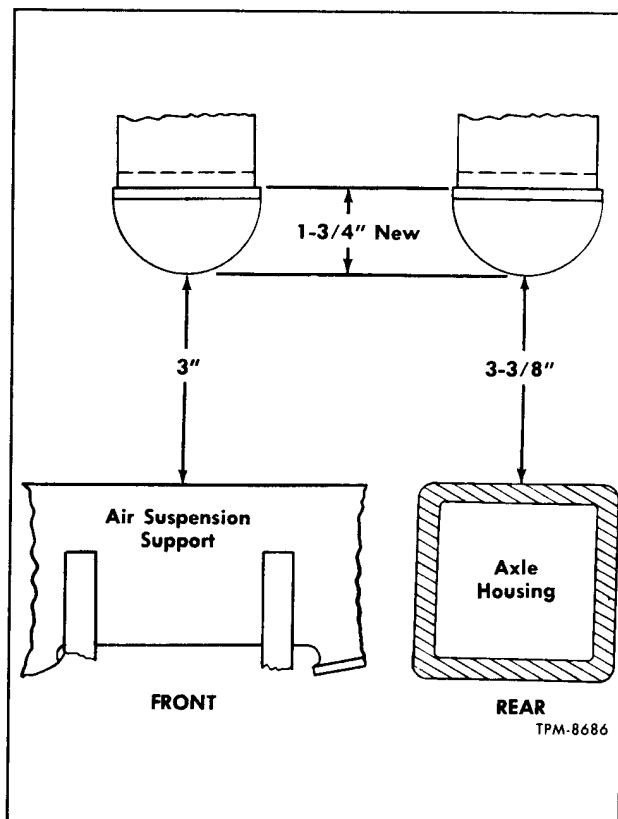

Figure 4—Normal Ride Height Clearance
Ride height measurements are taken between axle bumpers and top of axle housing as shown in figure 4.
sions given are based on the thickness of new axle bumpers (fig. 4). If coach is left standing for extended periods without air pressure in the air suspension system, the weight of the body on the axle bumpers may cause the bumpers to take permanent set in a flattened condition. Original thickness of new bumpers is shown in figure 4. If bumpers are flattened to less than the dimension shown, an equal amount should be added to the clearance specified to maintain normal ride height.
7. Position each end of axle by raising or lowering jacks to provide a clearance of 3" (normal ride height) between axle bumper and contact surface on suspension support (fig. 4). Refer to "Normal Ride Height" in "Ride Height Check and Adjustment" earlier in this section. With axle in normal ride height position, tighten radius rod cap screws and anchor bolt lock nuts to torque listed in "Specifications" at end of this section. Thread lock wire through cap screws and twist ends of wire together.
12. Raise coach and remove blocks from under body. Lower vehicle to floor and remove jacks. Build up air pressure in system to normal operating pressure. Wait a few minutes for air to flow into suspension system, then check clearance between axle bumpers and suspension supports (fig. 4). If clearance is appreciably more or less than 3", adjust overtravel lever on height control valve as necessary to obtain this dimension. Refer to "Ride Height Check and Adjustment" earlier in this section. Make sure lever adjusting screw is tight when adjustment is completed.
6. Raise or lower jacks to provide an axle clearance of 3-3/8" (normal ride height) between rubber axle bumpers and axle as shown in figure 4. Refer to "NOTE" under "Height Control Valves" in "System Maintenance" earlier in this section. With axle in normal ride height position, tighten radius rod cap screws and anchor bolt lock nuts to torque listed in "Specifications" at end of this section. Thread lock wire through cap screws and twist ends of wire together.
12. Raise coach with jacks and remove blocks from under body. Lower vehicle to floor and remove jacks. Build up air pressure in system to normal operating pressure. Wait a few minutes for air to flow into bellows, then check clearance between axle bumpers and axle (fig. 4). If clearance is appreciably more or less than 3-3/8", adjust overtravel lever on each height control valve as necessary to obtain this dimension. Refer to "Ride Height Check and Adjustment" earlier in this section. Make sure lever adjusting screw is tight when adjustment is completed.